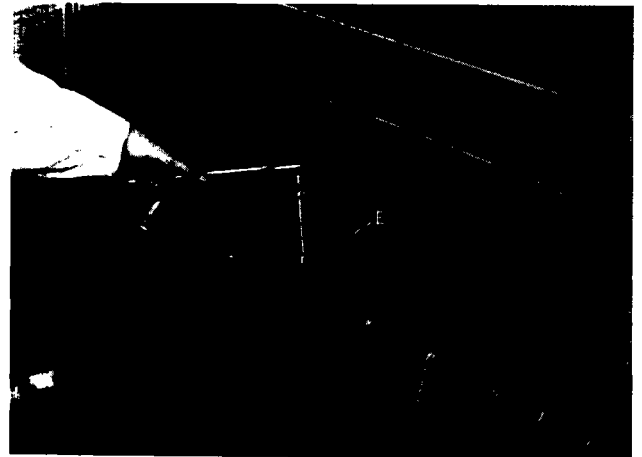

Fig. 8. Spring tunnel mounting points
- one each side of the spring access cover (E) (Fig. 8);